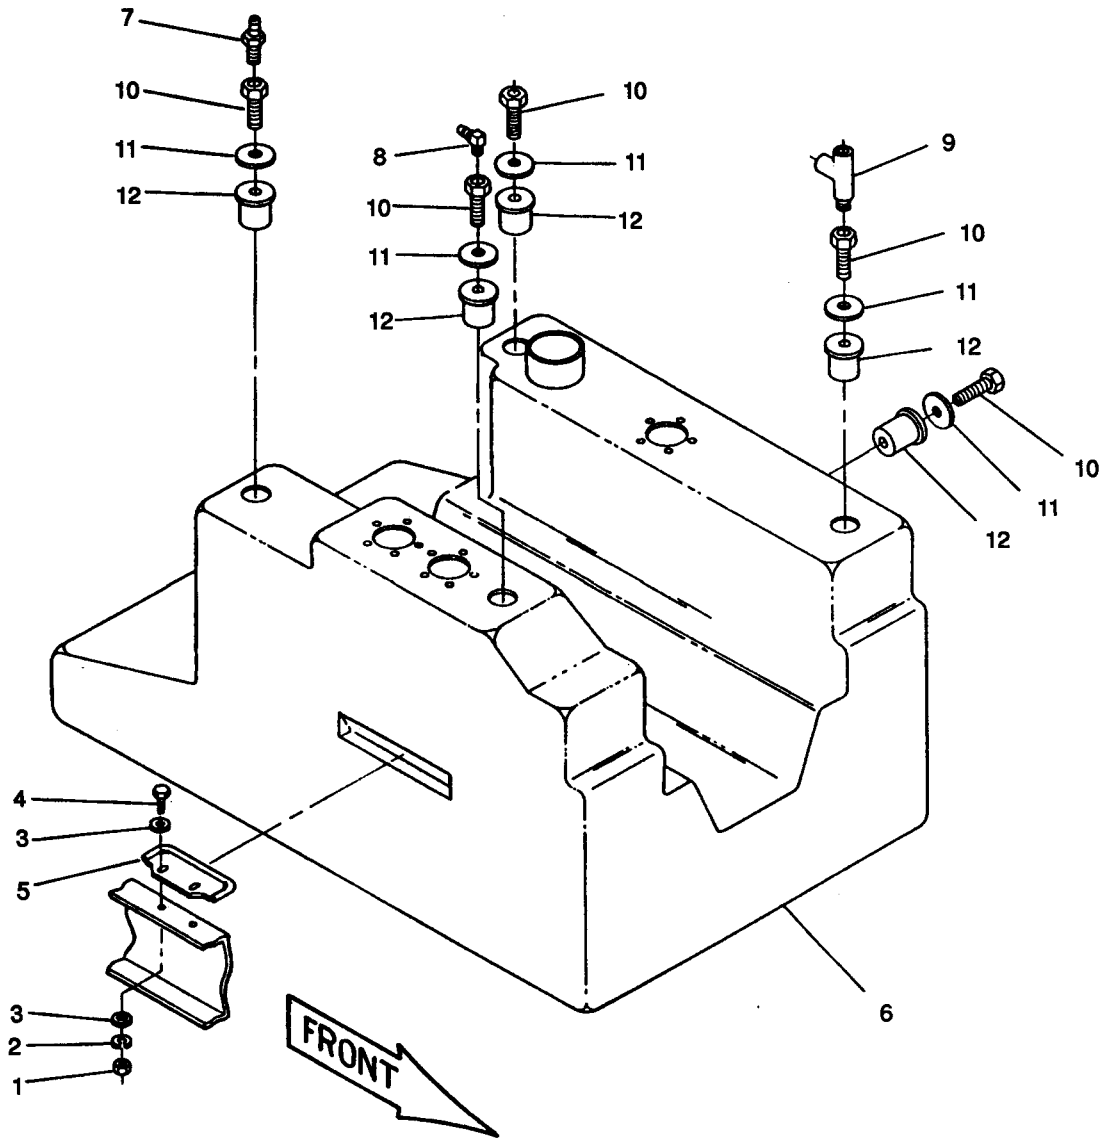

Figure 4-4. Fuel Tank
- Inspect fuel tank (6, FIGURE 4-4) for leaks, cracks, missing hardware, and other damage.
- Remove nuts (1, FIGURE 4-4), lockwashers (2), washers (3), bolts (4) and plates (5) securing fuel tank to skid base.
- Remove fuel tank (6) from skid base.
- Remove fittings (7) and (8) from excess fuel studs (10) on right side of tank.
- Remove fitting (9) from excess fuel stud (10) on left side of tank.
- Remove studs (10), washers (11), and bushings (12) from fuel tank.
- Install bushings (12, FIGURE 4-4), washers (11), and studs 910) in fuel tank (6).
- Install fitting (9) in excess fuel stud (10) on left side of fuel tank.
- Install fittings (7) and (8) in excess fuel studs (10) on right side of fuel tank.
- Install fuel tank (6) in skid and secure with plates (5), bolts (4), washers (3), lockwashers (2), and nuts (1).